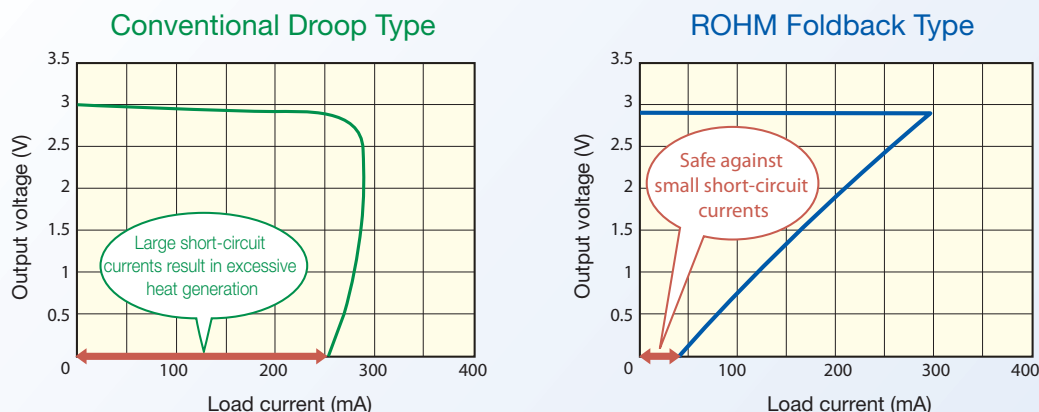

Figure 7. Foldback overcurrent protection reduces device heating during fault conditions.
- Built-in foldback type overcurrent protection (See Figure 7)